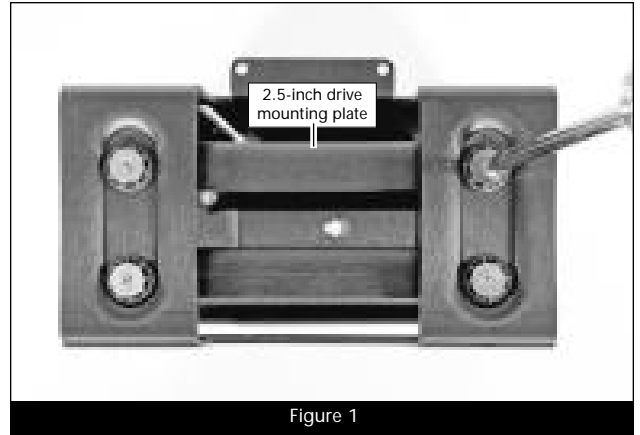

Figure 1
2. Using a Philips screwdriver, remove the four screws securing one of the 2.5-inch SSD mounting plates in the primary bracket (two on each side), set aside the screws, and then remove the plate (**Figure 1**).